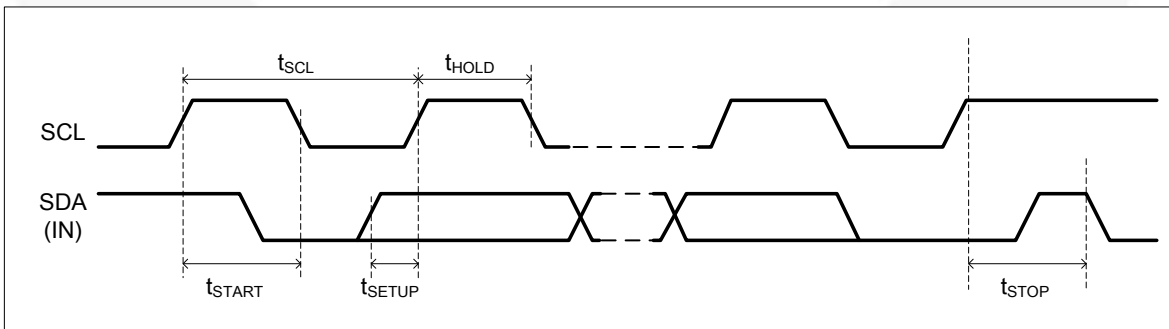

Figure 8. I²C interface Timing Diagram
- I²C timing diagram as Figure 8.